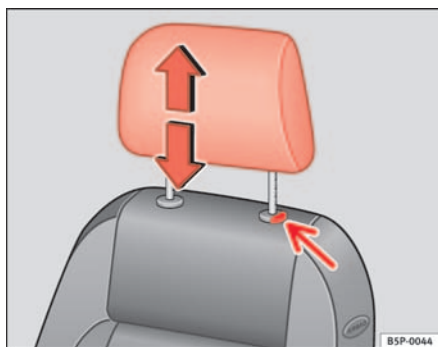

Fig. 73 Adjusting and removing the head restraints
- Press the button ⇒ fig. 73 (arrow).